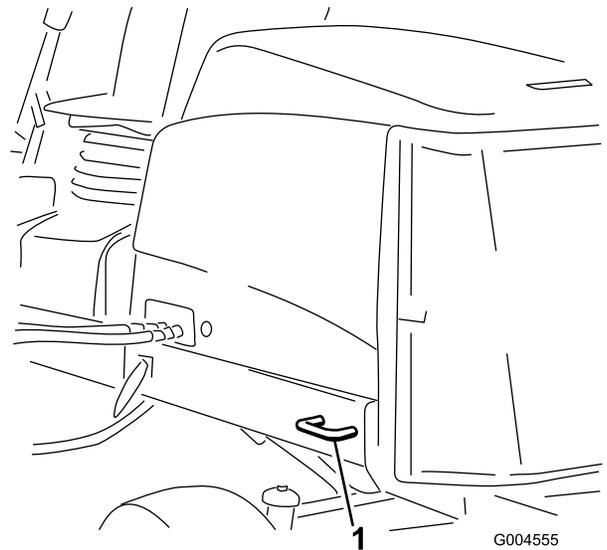

Figure 59
- Rear—each side of the machine on the rear frame (Figure 59).